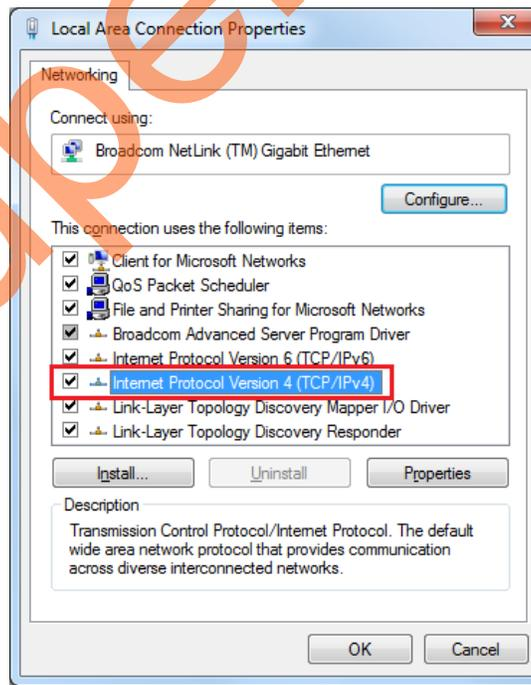

Figure 3 • Host PC TCP/IP Settings
- If the device is connected in static IP mode and the board static IP address is 169.254.1.23, change the host TCP/IP settings to reflect the IP address. Figure 3 shows the host PC TCP/IP settings.